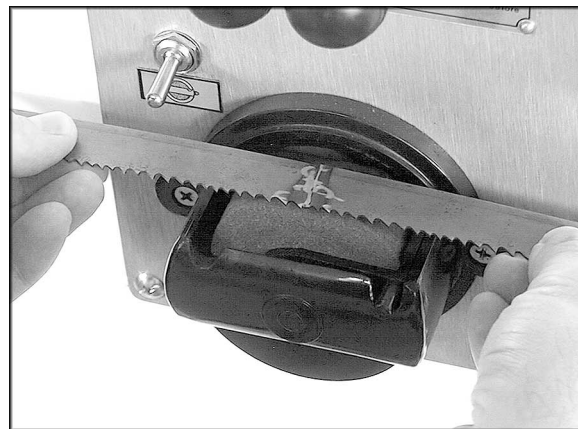
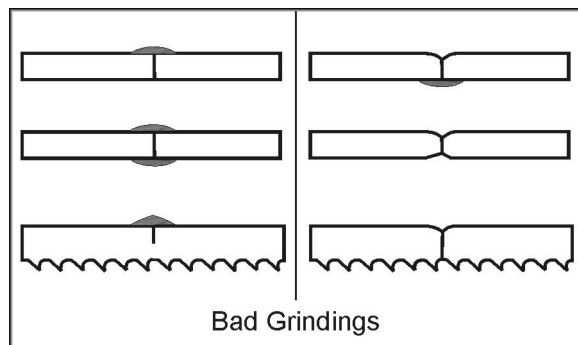

Figure 20
Figure 21
19. Check to make sure the welded section is the same thickness as the rest of the blade. If not, grind off excess weld material using the grinder (Figure 20). Figure 21 illustrates some unacceptable grindings.